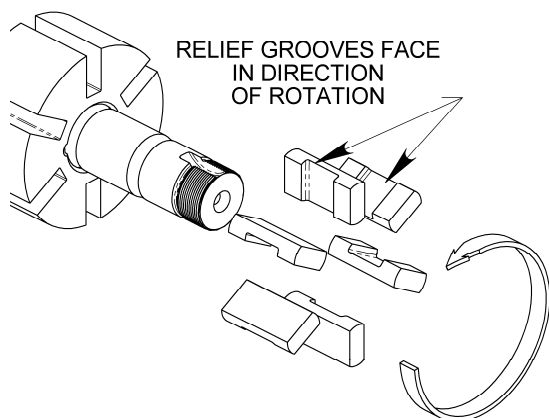
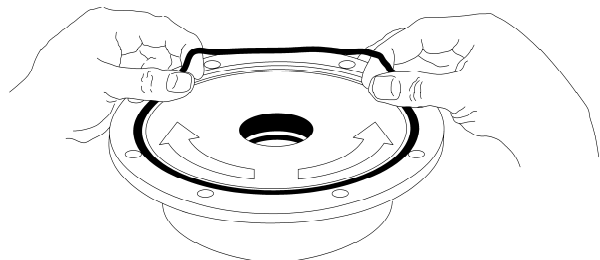

Figure 6 – Vane Replacement
Figure 7 Head O-ring Installation
2. If the pump shaft is protruding through the cylinder (12), remove the head assembly from the pump according to steps 4 - 8 in the "Pump Disassembly" section of this manual. If the pump shaft is protruding through the head (20), remove the entire pump from the mounting bracket (108 or 108B) (See Step 3 in "Pump Disassembly") then remove the head assembly from the pump according to steps 5 - 8 in the "Pump Disassembly" section of this manual.
3. Turn the shaft by hand until a vane (14) comes to the top (12 o'clock) position of the rotor. Remove the vane.
4. Install a new vane (14), ensuring that the relief groove is facing toward the direction of rotation. See Figure 6.
18. Insert the vanes (14) into the slots in the rotor, ensuring that the relief groove is facing toward the direction of rotation. See Figure 6
19. Apply a light coating of quality O-ring lubricant in the seal and bearing recess of the head (20) to facilitate mechanical seal (153) installation.
24. Align the notch in stationary seat (153B) with the anti-rotation pin in the head (20). Insert it into the seal recess with the polished face inward to mate with the rotating face.
25. Hand pack the ball bearing (24) with grease. Refer to "Lubrication" in the Pump Maintenance Section for the recommended grease.
26. Install the bearing (24) into the head recess. The bearing balls should face outward, with the grease shield inward. Ensure that the bearing (24) is fully and squarely seated against the mechanical seal (153).
27. Apply a small amount of quality O-ring lubricant to the O-ring groove on the inside face of the head and install a new head O-ring (72) in the groove by laying the O-ring flat and starting in on one side of the groove, stretching ahead with the fingers, as shown in Figure 7.